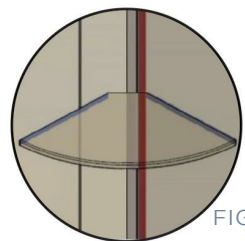

FIG.26
- After 24-48 hours remove stabiliser blocks (FIG 26).